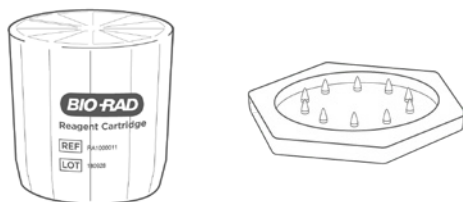

Fig. 32. Reagents Cartridge and Reagents Cartridge Venter.
3. Pierce the top foil of the Reagents Cartridge with the Reagents Cartridge Venter, making sure to twist the Venter to open the foil (Figure 32).